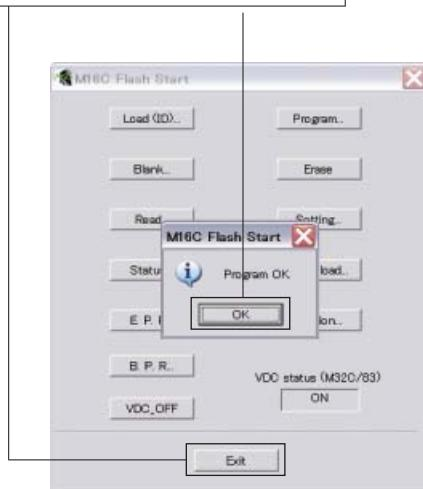

Fig. 6
9. When writing of the firmware is completed, the screen appears as shown below. (Fig. 6)
Click [OK]. (Fig. 6)
10. Click [Exit] to end FlashSta.exe. (Fig. 6)
[OK] をクリックします。 (Fig. 6)
(Fig. 6)